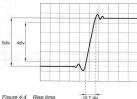

Figure 4.4 Rise time
- Adjust the pulse amplitude to exactly 5 divisions. See figure 4.4.
- Check the rise time, measured between 10% and 90% of the pulse amplitude. See figure 4.4. The rise time $t_r(\text{measured})$ must be 7 ns (0.7 div) or less.